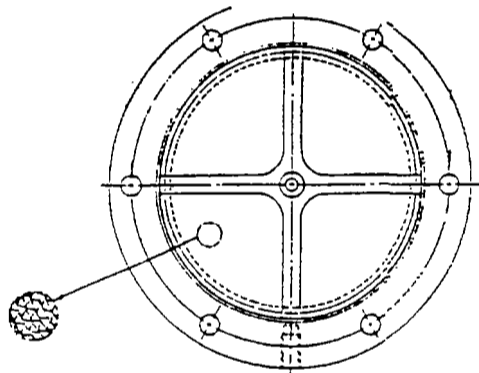

Figure 3. Intake Flame Arrester
7. ( ) Remove the intake flame arrester. The intake flame arrester is shown in Figure 3. The flame arrester core is clean and has no apparent damage.